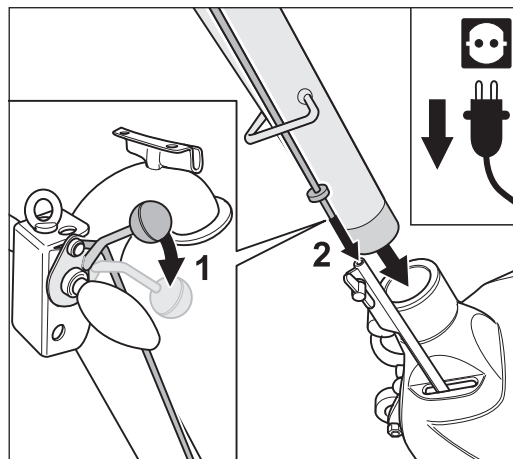

Fig. 7 When inserting the guide tube, make sure that the upper rod of the lowering mechanism feeds in correctly!
- 2 Press the lowering lever at the handle downwards (Fig. 7, 1).
- 3 Insert the guide tube into the opening in the machine housing and at the same time insert the upper rod into the lower rod (Fig. 7, 2).